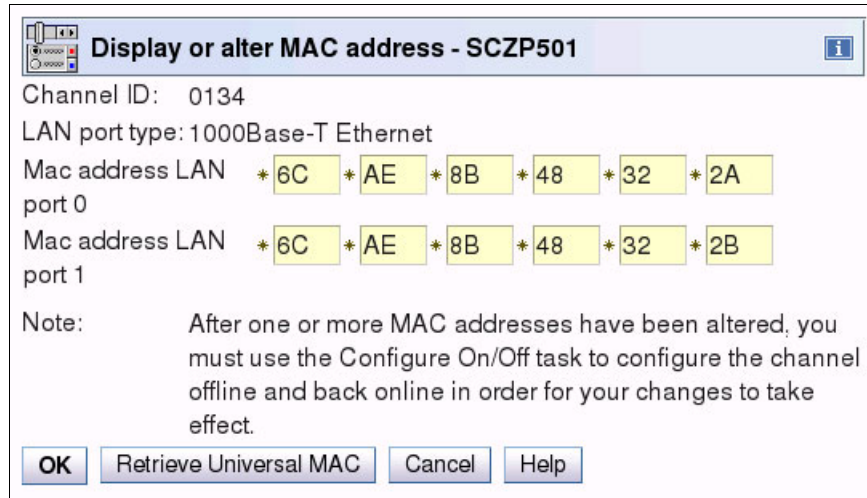

Figure 14-102 OSA Advanced Facility: display or alter MAC address values
3. The Display or alter MAC address window opens (Figure 14-102). Set the MAC address that you want and then click **OK**.